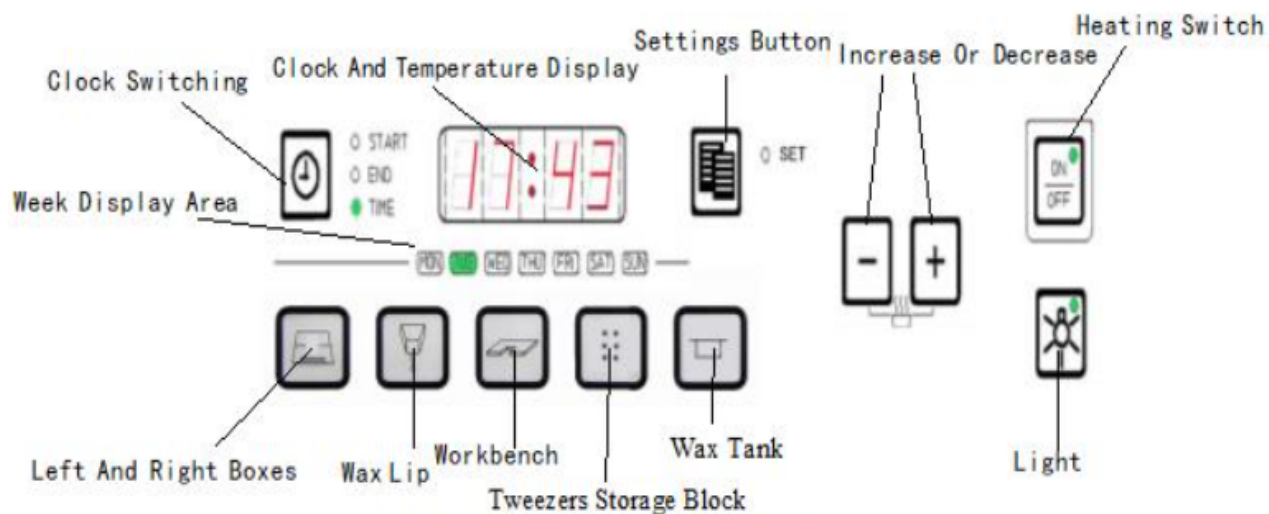

Figure 3
2. Front panel button and indicator light description: (see Figure 3)